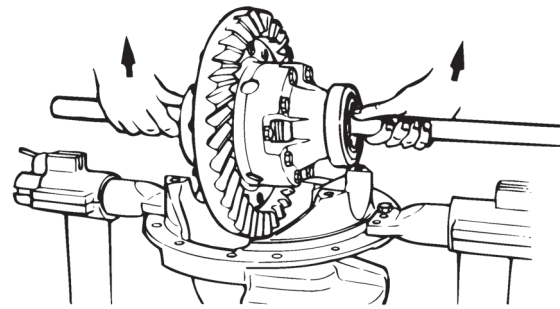

Figure 6.12
13. Lift the differential and gear assembly from the differential. Figure 6.12.